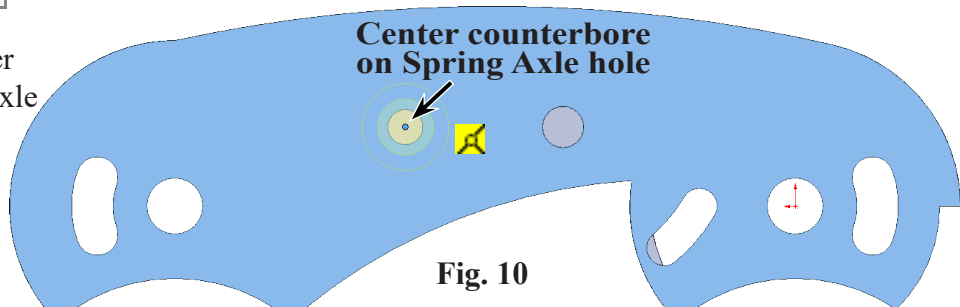

Fig. 10
Step 5. Hover cursor over edge of Spring Axle hole to display centerpoint. Then, click centerpoint to create a coincident  mate with hole, **Fig. 10**.